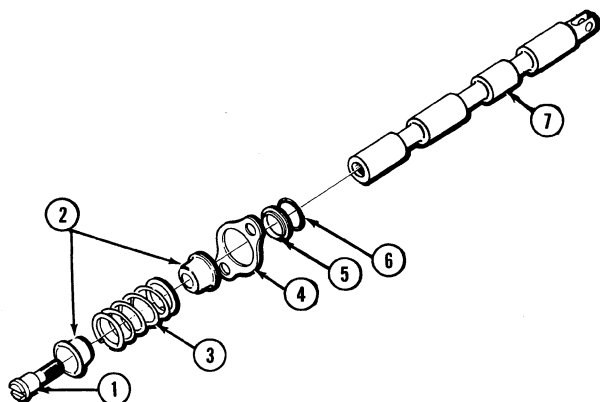

Figure 9
5. Remove the cap screw and remove the spring seats (2), spring (3), seal plate (4), wiper (5) and O-ring (6) from the spool (7), Figure 9.